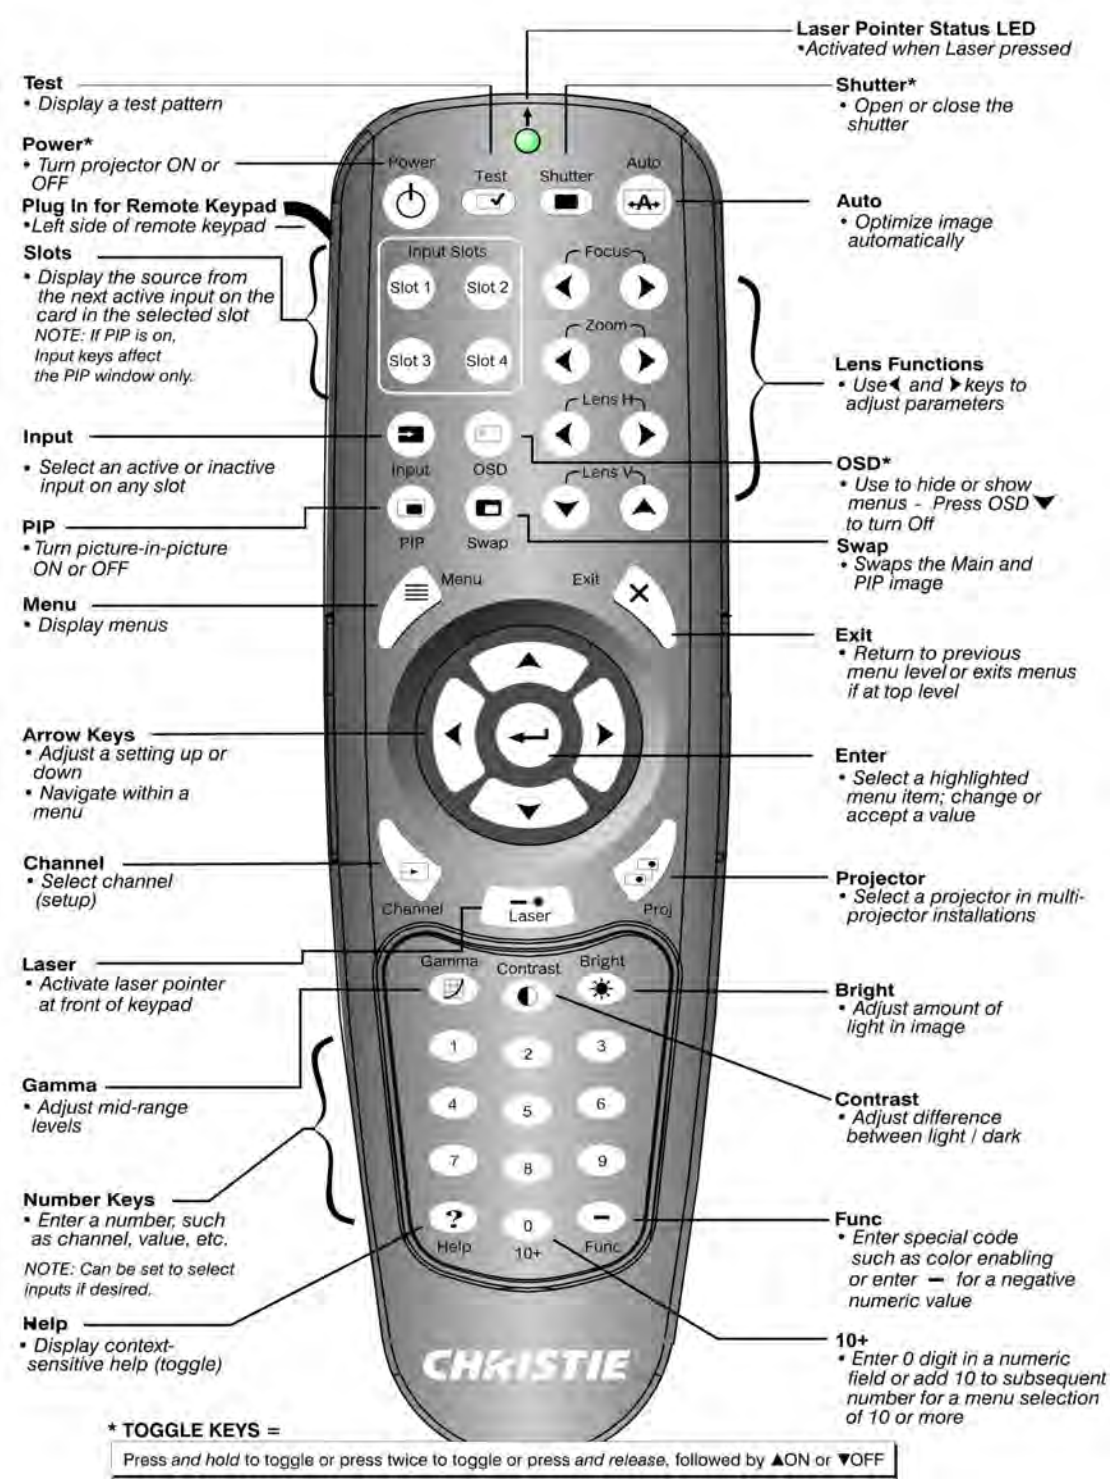

FIGURE 3-1 REMOTE KEYPAD
- **Remote Keypad:** For wired or wireless control up to 25 feet (8 m) away (includes cable for use as a wired remote). The remote keypad controls the projector by way of wireless communications from a battery-powered infrared (IR) transmitter. Use the remote keypad the same way you would use a remote keypad supplied with a TV or VCR. When pressing a function key, direct the keypad toward the projector's front or rear IR sensor. One of the two IR sensors on the projector will detect the signal and relay the commands for internal processing. A laser pointer is built into the remote keypad. See *Figure 3-1 Remote Keypad*.
NOTE: Use **POWER**, **SHUTTER**, and **OSD FUNCTIONS** by doing one of the following: "press-and-hold" (2 seconds) or press twice quickly, followed by pressing either the **UP ARROW KEY** to switch on or the **DOWN ARROW KEY** to switch off once. See *Figure 3-1 Remote Keypad*.